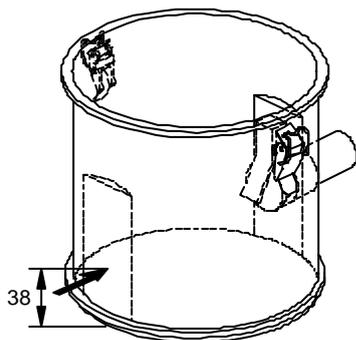

Fig. 6.1.-2
- Insert the level switch (see fig. 6.1.-3).